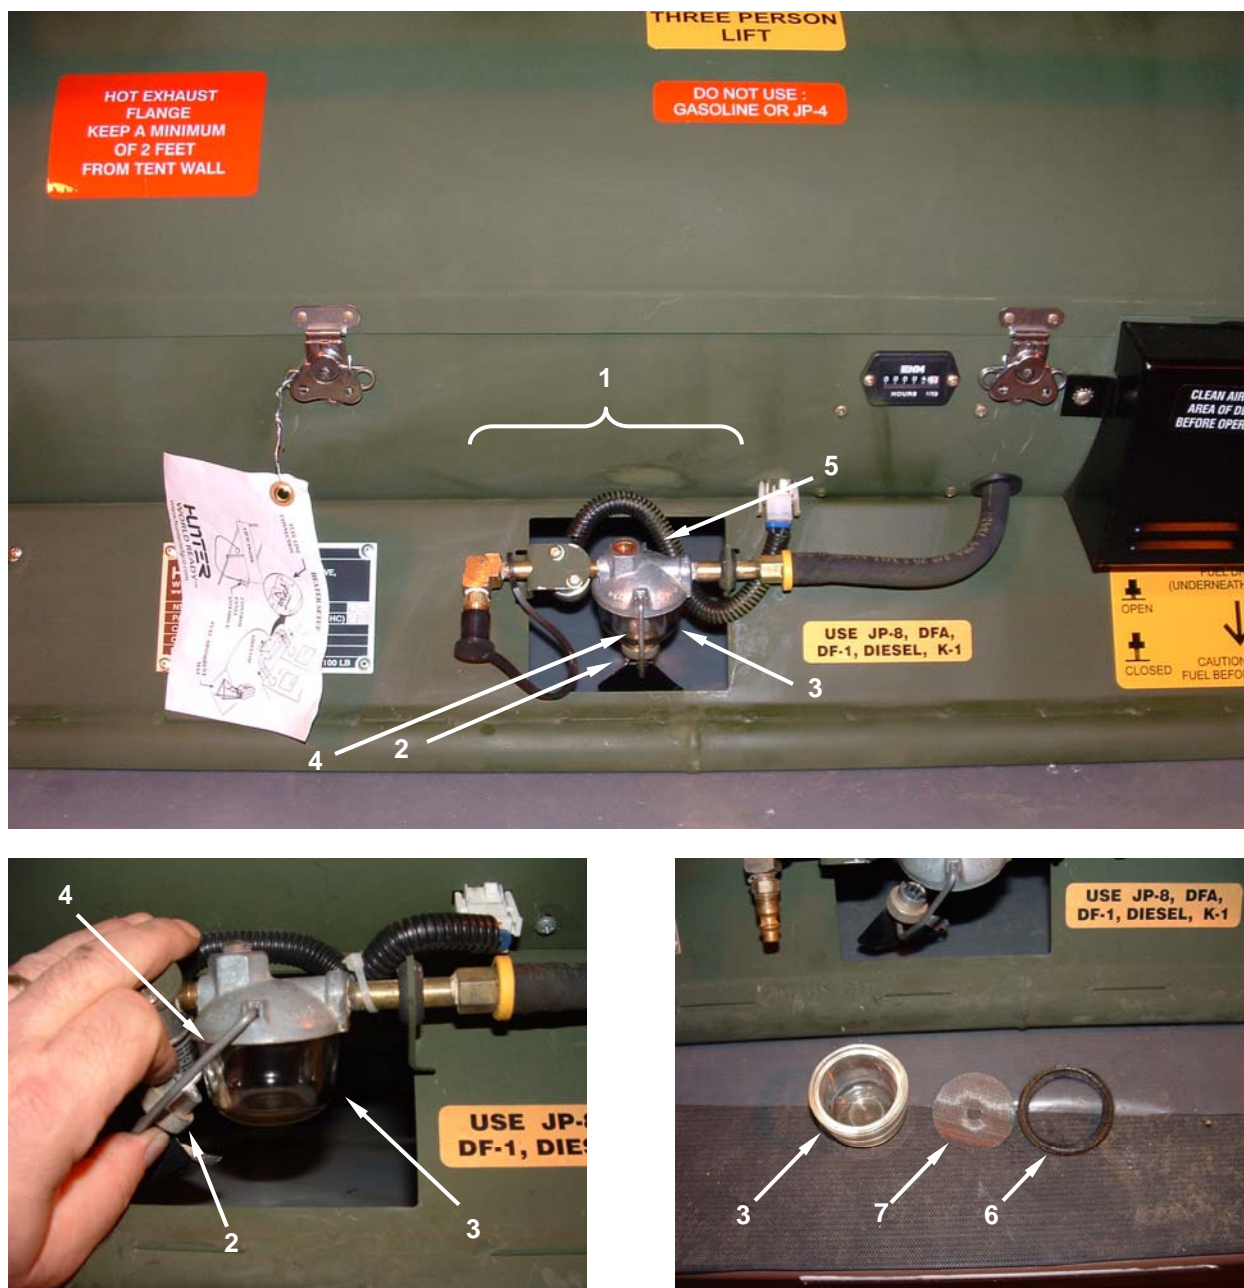

Figure 2. Service Fuel Solenoid and Sediment Strainer Assembly.
1. To clean and service the sediment strainer (**Figure 2, Item 1**), first place a petroleum absorbent mat under the heater in the area of the sediment strainer.
2. Loosen the knurled nut (**Figure 2, Item 2**) at the base of the sediment strainer bowl (**Figure 2, Item 3**).
3. Rotate the bale (**Figure 2, Item 4**) to the right and upward while supporting the bowl (**Figure 2, Item 3**).
4. Rock the bowl (**Figure 2, Item 3**) slightly and remove it from the sediment strainer top assembly (**Figure 2, Item 5**).
5. Empty the fuel from the bowl (**Figure 2, Item 3**) into an approved container and discard. Do not empty the fuel into a fresh fuel supply. Wipe the bowl clean with a lint-free rag or wiping towel.
6. Remove the gasket (**Figure 2, Item 6**) and screen (**Figure 2, Item 7**) from the sediment strainer top assembly (**Figure 2, Item 5**).
7. Rinse the gasket (**Figure 2, Item 6**) and screen (**Figure 2, Item 7**) in clean approved fuel, ensuring all sediment is removed.
8. Install the gasket (**Figure 2, Item 6**) and screen (**Figure 2, Item 7**) in position on the sediment strainer top assembly (**Figure 2, Item 5**).
9. Replace the bowl (**Figure 2, Item 3**) under the sediment strainer top assembly (**Figure 2, Item 5**).
10. Rotate the bale (**Figure 2, Item 4**) downward and center under the bowl (**Figure 2, Item 3**).
11. Tighten knurled nut (**Figure 2, Item 2**) at base of sediment strainer bowl (**Figure 2, Item 3**).